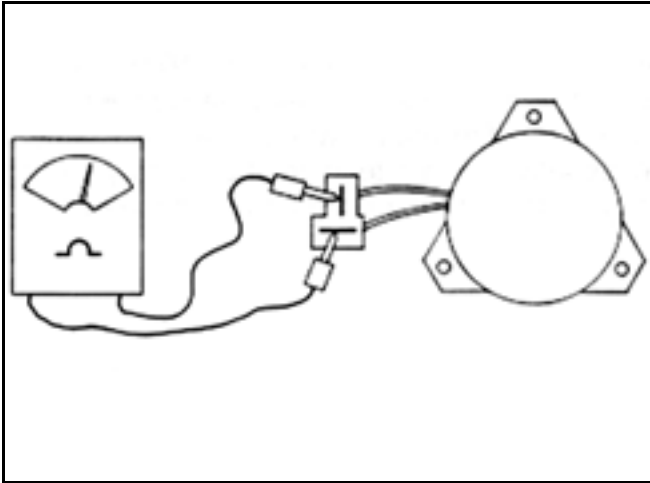

Figure 228
4. Connect the meter lead wires to the wires in the clutch connector (Figure 228).